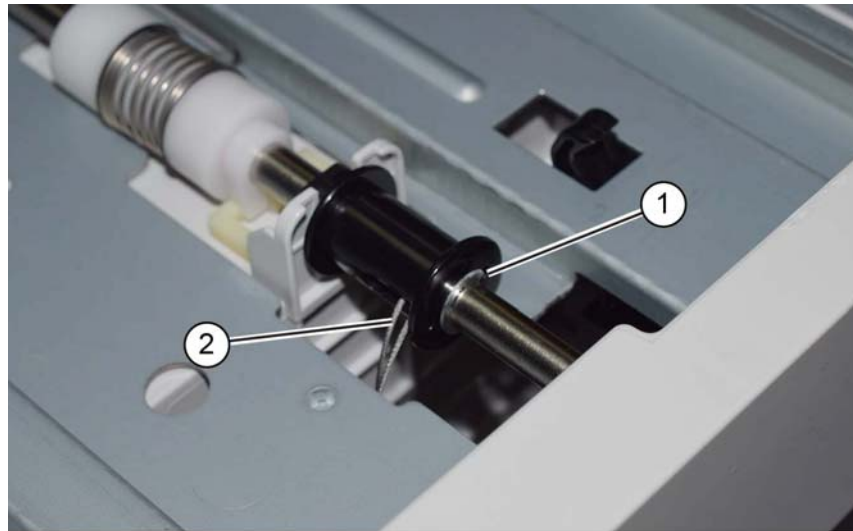

Figure 1 Front cables
5. Release the front lift cables, Figure 1:
- a. Remove the E-clip (1).
- b. Release the front lift cables (2).